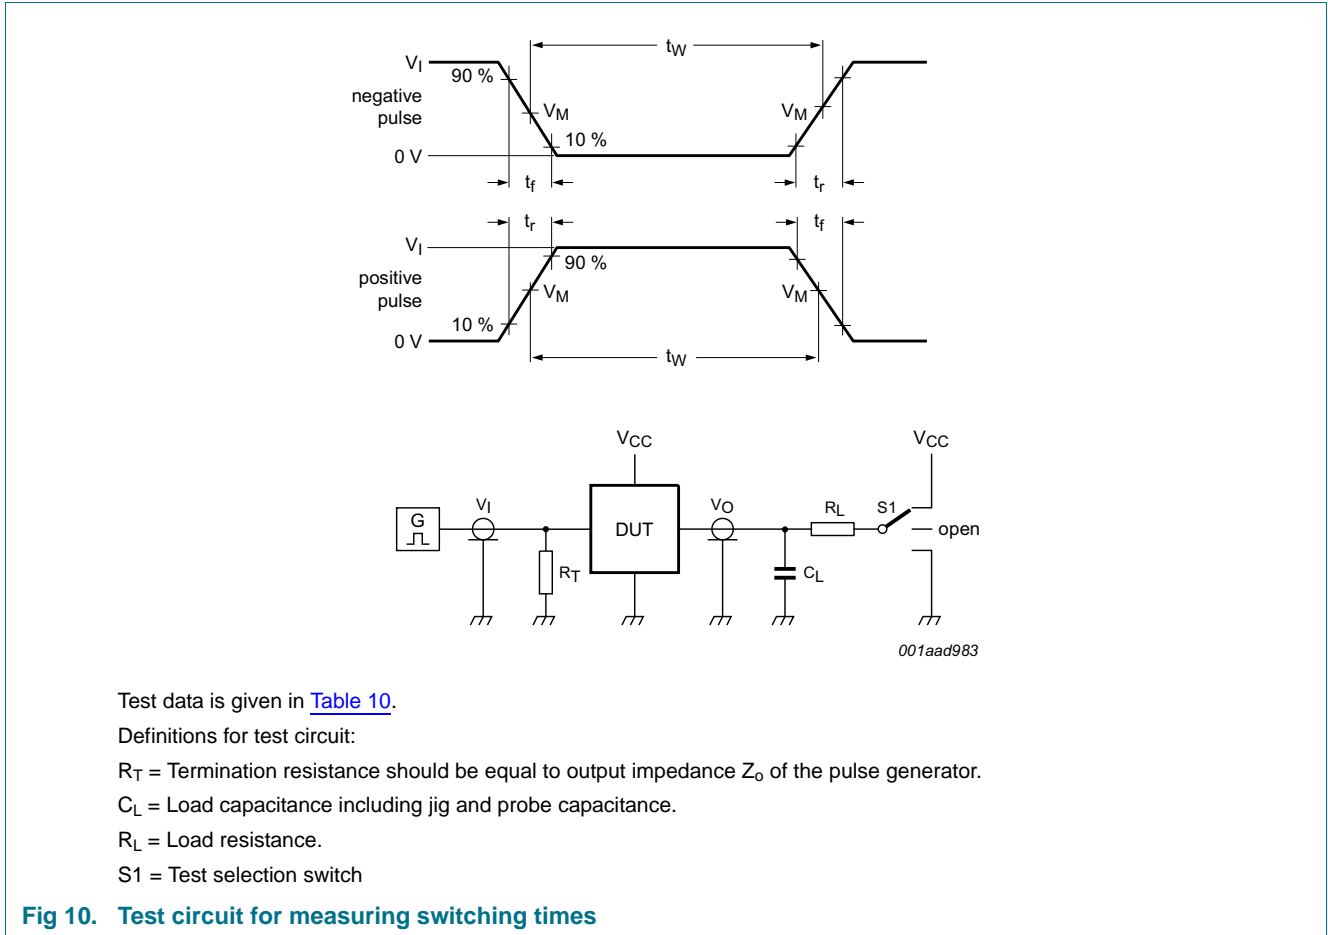

Fig 10. Test circuit for measuring switching times
**Table 7. Dynamic characteristics ...continued**GND (ground = 0 V);  $t_r = t_f = 6$  ns;  $C_L = 50$  pF unless otherwise specified; for test circuit, see Figure 10
GND (ground = 0 V);  $t_r = t_f = 6 \text{ ns}$ ;  $C_L = 50 \text{ pF}$  unless otherwise specified; for test circuit, see Figure 10